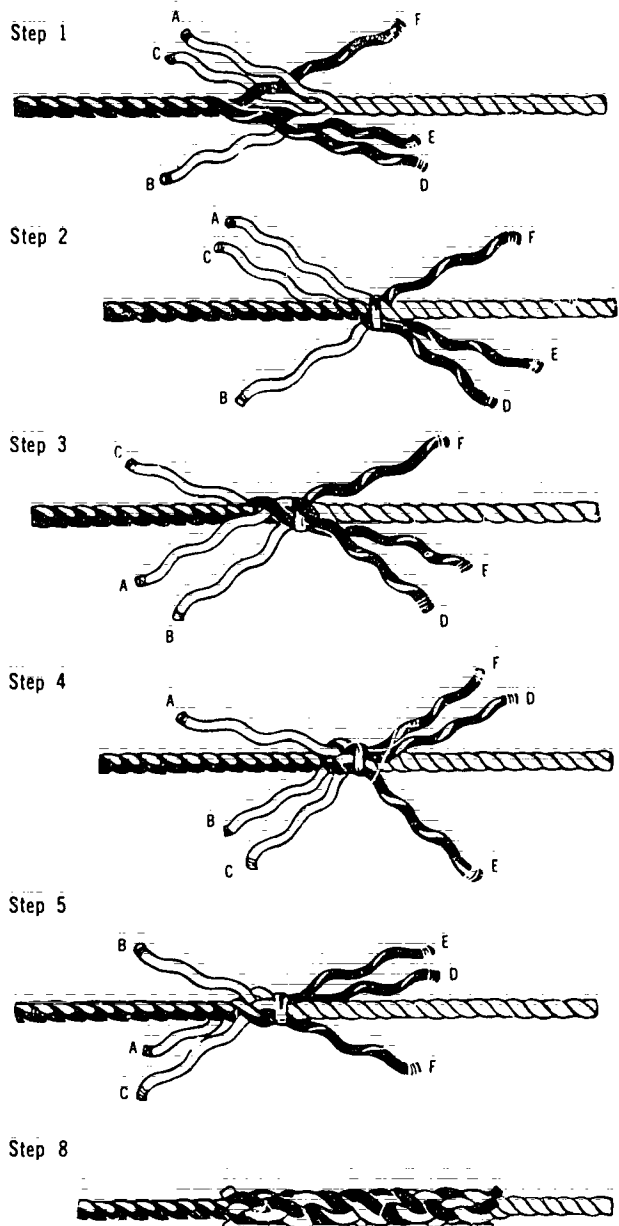

Figure 7-32. Making a Short Splice
- Step 1: Unlay the strands at end of each rope for six or eight turns. Whip the ends of the strands to prevent their untwisting, and bring together so that each strand of one rope alternates with a strand of the other (Figure 7-32, Step 1).
- Step 2: Bring the ends tightly together and apply a temporary seizing where they join (Figure 7-32, Step 2).
- Step 3: Take any one strand and begin tucking, the sequence being over one and under one. Figure 7-32, Step 3, shows how Strand A is passed over the strand nearest to it, which is Strand D, and then under the next strand, Strand E.
- Step 4: Rotate the splice away from you one-third of a turn and make the second tuck; Strand B is passed over Strand E and then under Strand F (Figure 7-32, Step 4).
- Step 5: Before making the third tuck, rotate the splice again one-third of a turn away from you. Strand C is then passed over Strand F, and under the next one, Strand D. The splice now appears as in Figure 7-32, Step 5.
- Step 8: When tucking is finished, remove the centre seizing and cut off the ends of all strands, leaving at least 3/4" on each end. To give a smooth appearance, roll the splice back and forth, either under your foot or between two boards. The completed Short Splice should look something like the illustration in Figure 7-32, Step 8.